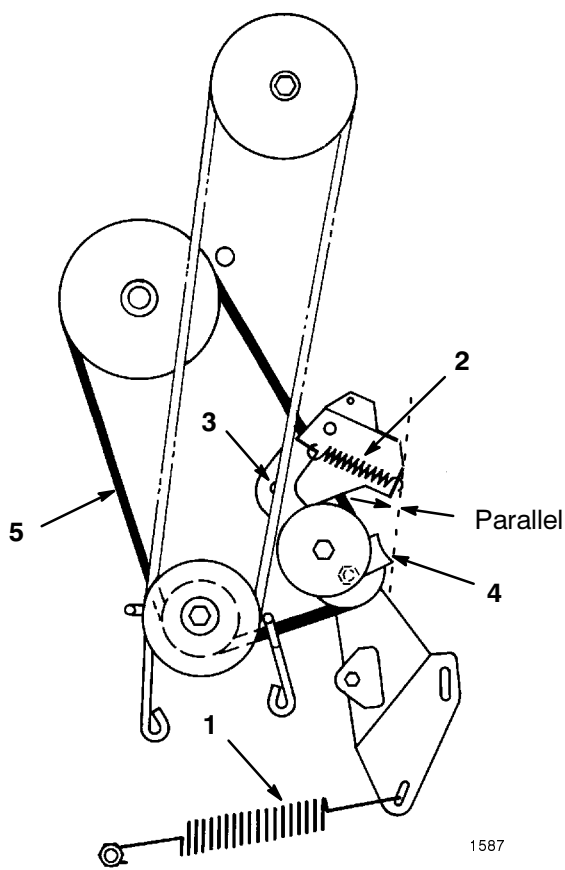

Figure 27
7. Unhook large traction spring from mounting screw (Fig. 27). Use caution when removing spring as it is heavily tensioned.
8. Unhook idler spring from idler bracket (Fig. 27).
9. Remove locknut and washer securing idler bracket to frame and remove bracket (Fig. 27).
10. Loosen the locknut on pulley until belt guide can be removed (Fig. 27). Remove belt from all pulleys.
**Note:** When reinstalling belt guide to idler pulley, make sure edge of belt guide is parallel to the frame as shown in Figure 27.